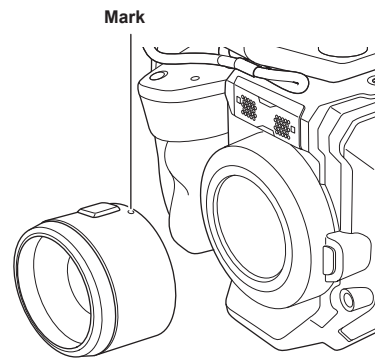

Fig. 2
- 3 Insert the lens into the EF lens mount with the mark on the lens (red dot) facing up. (Fig. 2)**